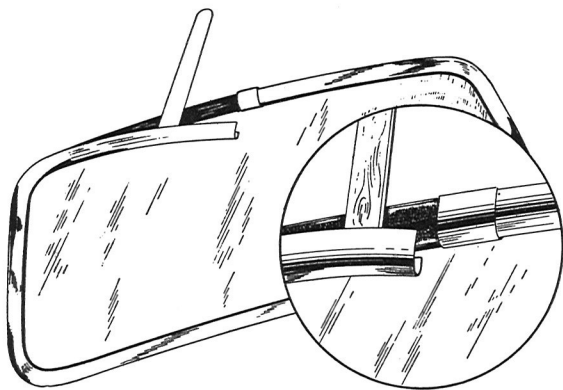

Fig. 8-30. Removing trim moulding
3. Remove the trim moulding by levering out the ridge of the rubber strip from the trim moulding with a moistened wooden putty knife and releasing the trim moulding in the middle with another putty knife as shown in Fig. 8-30. Lever off the moulding carefully while releasing the rubber strip with the other putty knife.